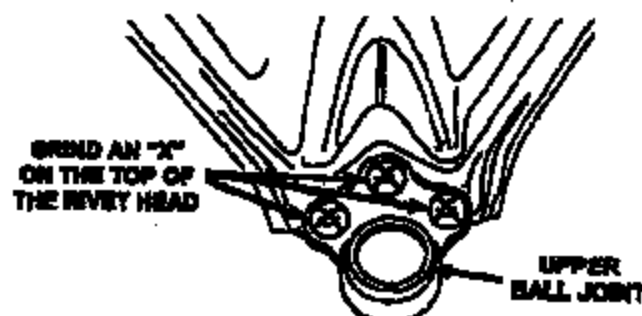

Figure 1
6. Using a die grinder equipped with a cut-off wheel, grind an "X" through each of the three upper ball joint rivet heads (Figure 1).